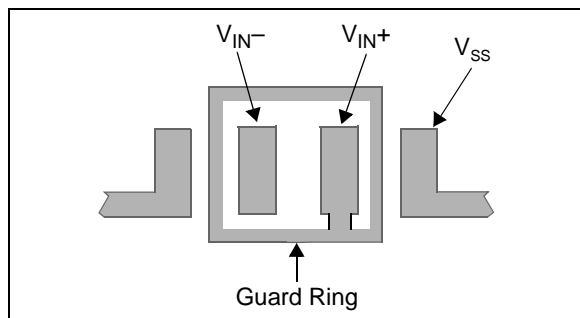

FIGURE 3-7: Example Guard Ring Layout for Inverting Gain.
The easiest way to reduce surface leakage is to use a guard ring around sensitive pins (or traces). The guard ring is biased at the same voltage as the sensitive pin. An example of this type of layout is shown in Figure 3-7.
1. For Inverting (Figure 3-7) and Transimpedance Amplifiers (convert current to voltage, such as photo detectors):